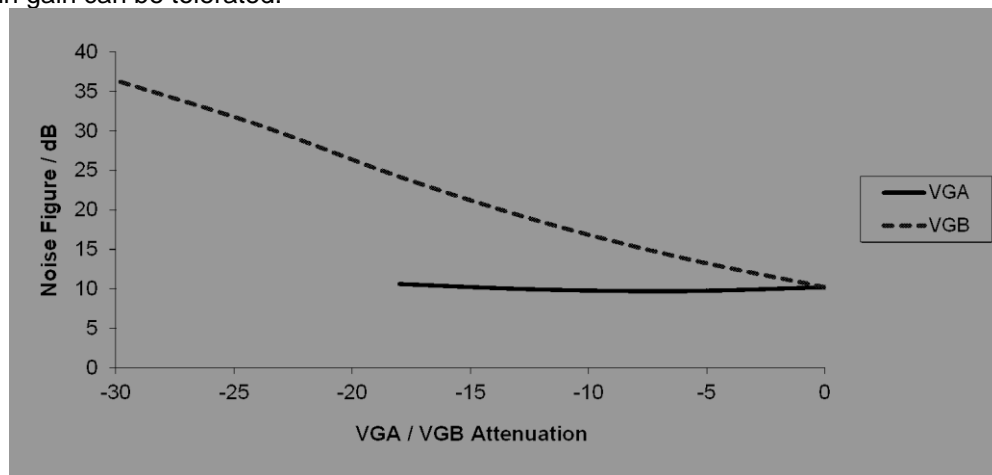

Figure 19 Variation in CMX973 Demodulator Noise Figure with VGA/VGB Control
The control of gain using VGA and VGB has an impact on the performance of the CMX973 demodulator section. The variation in noise figure (NF) is straightforward, with the RF/IF gain control (VGB) having a direct impact on NF but, due to the gain before the I/Q section, VGA has little impact on NF (see Figure 19). The variation of intermodulation (IMD) is more complex, as shown in Figure 20, where performance is characterised by 'Input Third Order Intercept Point' (IIP3). At maximum gain IIP3 is at a minimum and as would be expected, the IIP3 increases as the RF/IF gain is reduced (VGB). The improvement plateaus beyond the -18dB gain setting as the input stages limit performance at this level. Reduction in gain with VGA (I/Q gain control) also has a positive effect on IIP3. This is perhaps less intuitive but indicates that the intermodulation performance of the CMX973 demodulator chain is dominated by the output stages rather than RF/IF or mixer stages. Thus -6dB or even -12dB VGA gain control settings can be used to achieve improved IMD performance for negligible change in noise figure (Figure 19), as long as the reduction in gain can be tolerated.